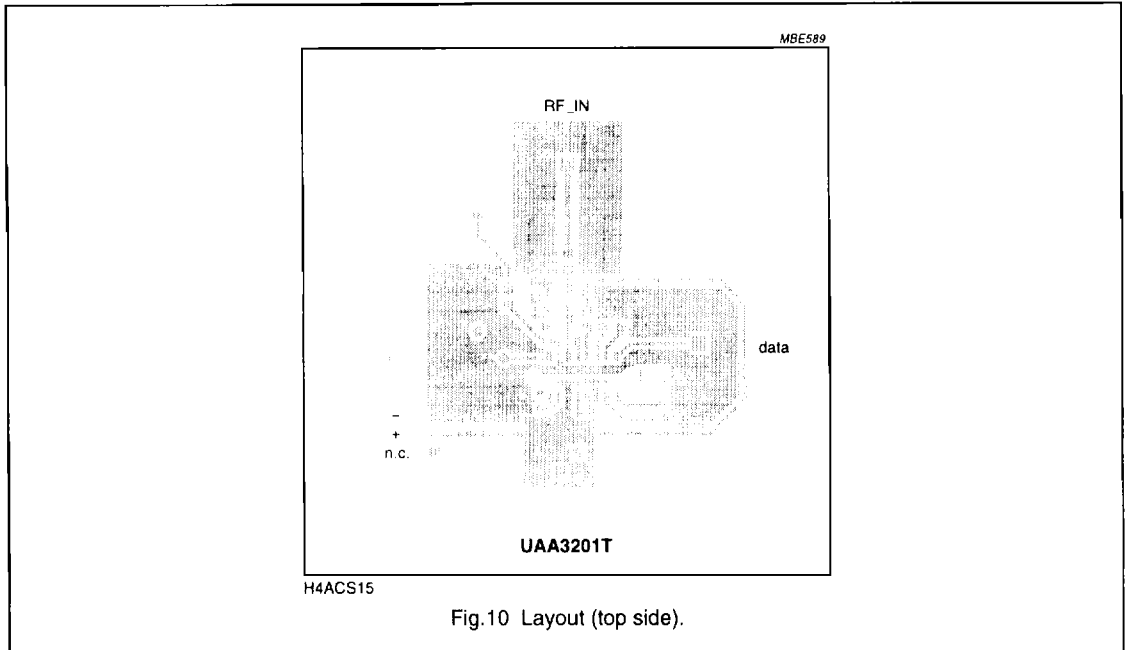

Fig.10 Layout (top side).
$V_{CC} = 3.5\text{ V}$; $T_{amb} = +25\text{ °C}$; test circuit (see Fig. 1); R1 disconnected; for test board see Figs 10 and 11; for AC test conditions see Section "AC test conditions"; unless otherwise specified.
2. Valid only for the reference PCB (see Figs 10 and 11). Spurious radiation is strongly dependent on the PCB layout.